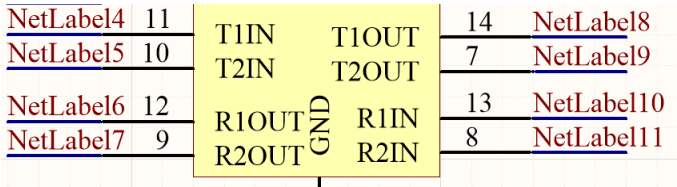

Figure 14: Added Default Net Labels
29. Add your labels to the RS-232 pins as shown in Figure 14.